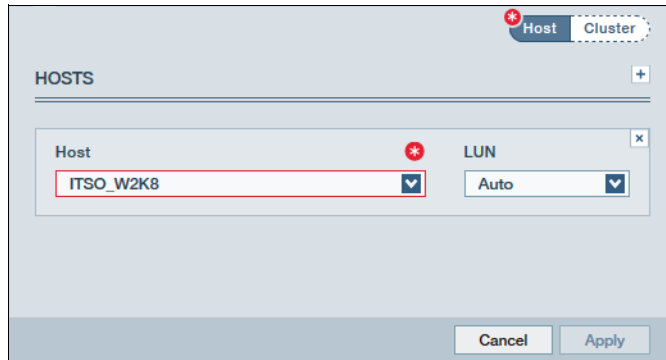

Figure 2-47 Mapping a volume to a host
3. In the Hosts window (see Figure 2-47 on page 89), select an available host from the pull-down list. The GUI suggests a default (Auto) LUN ID to which to map the volume. However, this ID can be changed to meet your requirements. Click **Apply** and the volume is assigned immediately.